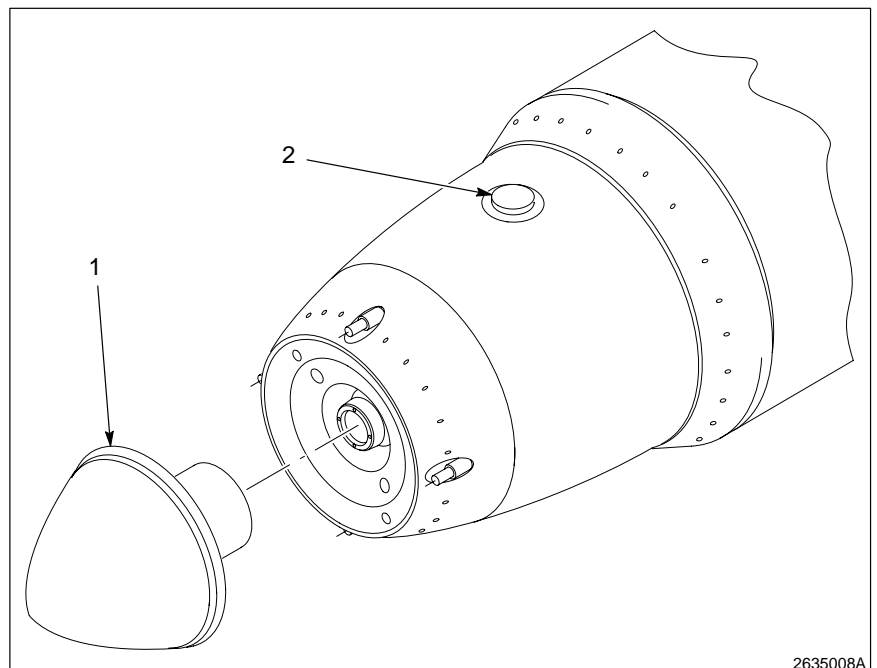

Fig. 7-1 Powder Bell
1. See Figure 7-1. Remove the nose cone (1) by pressing in the spindle lock button (2) and turning the nose cone counterclockwise.